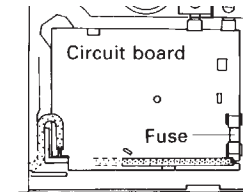

Fig. 11
- Pull the fuse out of holder on the circuit board and replace it.(Fig. 11)